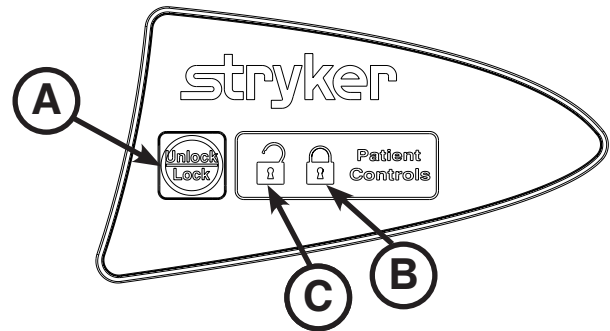

Figure 8: Patient Control Lockout
To lock the siderail patient controls, press the **Lock/Unlock (A)** button as shown in Figure 8. The lock icon (B) is illuminated amber while the patient controls are locked. The foot end nursing controls are not locked.
To unlock the siderail patient controls, press the **Lock/Unlock (A)** button as shown in Figure 8. The unlock icon (C) is illuminated green when the patient controls are unlocked.